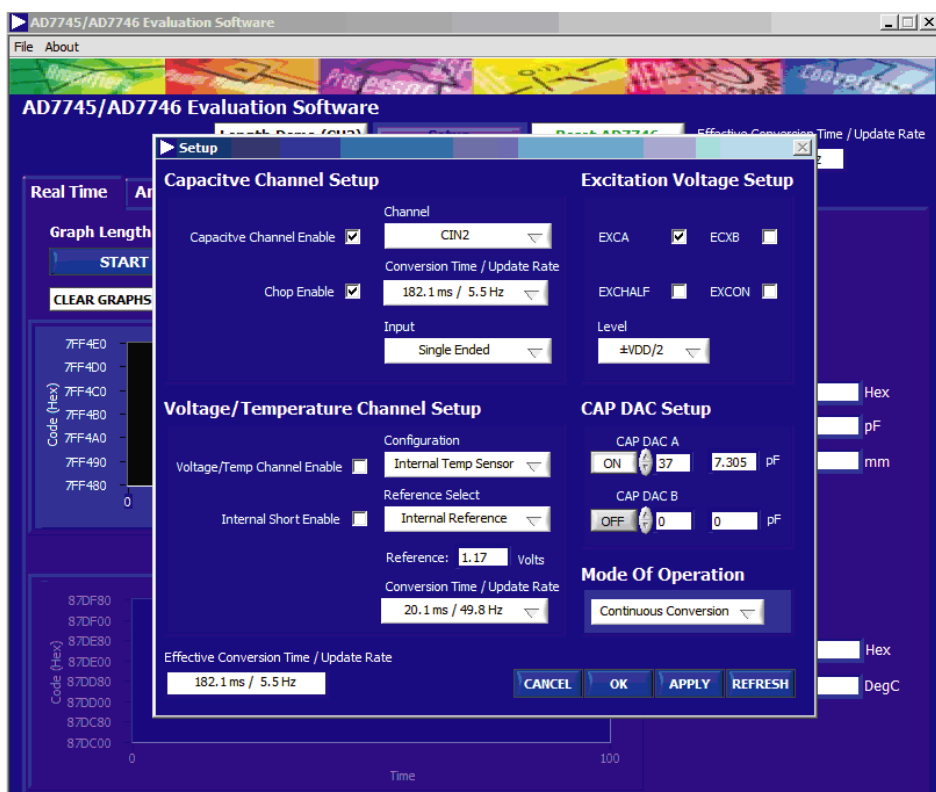

Figure 11. Setup Window
1. On the **Real Time** tab, click **Setup**. The **Setup** window appears (see Figure 11).